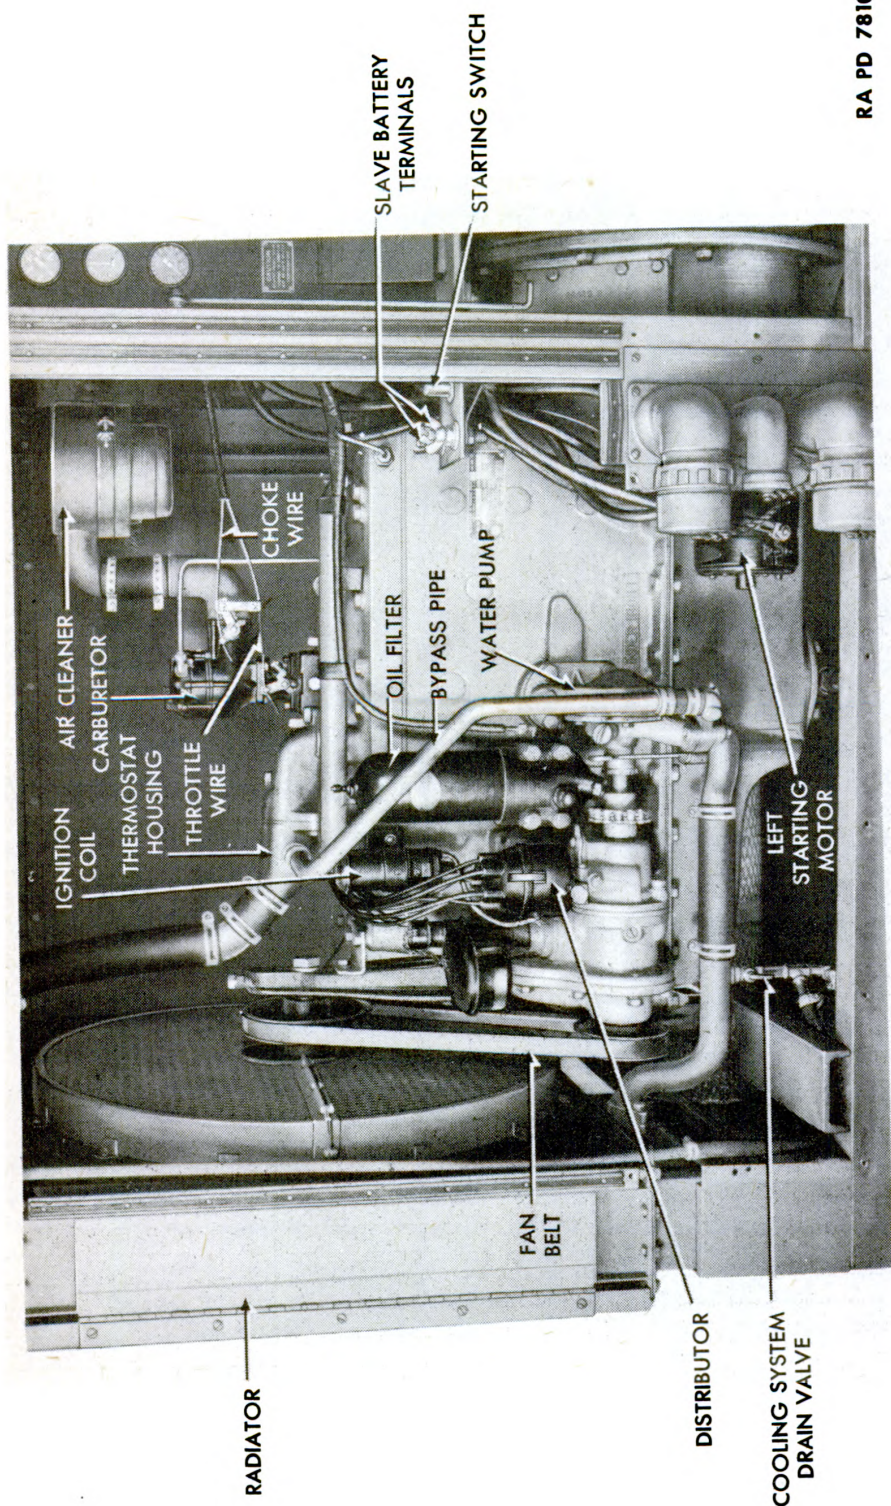

Figure 14 — Engine — Left Side
a. **Construction.** The gasoline engine (figs. 14 and 15) is a 6-cylinder, L-head type, with aluminum pistons. The cylinder block and crankcase are cast in one piece, and the water jacket extends the full length of the cylinder bore. The cylinder head is made of cast iron, and is easily removable to permit service operations.
(1) **WATER PUMP.** The water pump is attached to the left side of the engine block on the accessory drive (fig. 14).
(5) **OIL FILTER.** The oil filter is on the left side of the engine, above the accessory drive (fig. 14).
attached to the carburetor elbow by a hose connection (figs. 14 and 15).
(12) **DISTRIBUTOR.** The distributor is mounted on the accessory drive housing on the left side of engine (fig. 14).
(13) **IGNITION COIL.** The ignition coil is mounted on a bracket held down by engine cylinder head cap screws on the left side of engine (fig. 14).
(14) **STARTING MOTORS.** Two starting motors are used, one on each side of the engine block mounted on the engine bell housing (figs. 14 and 15).